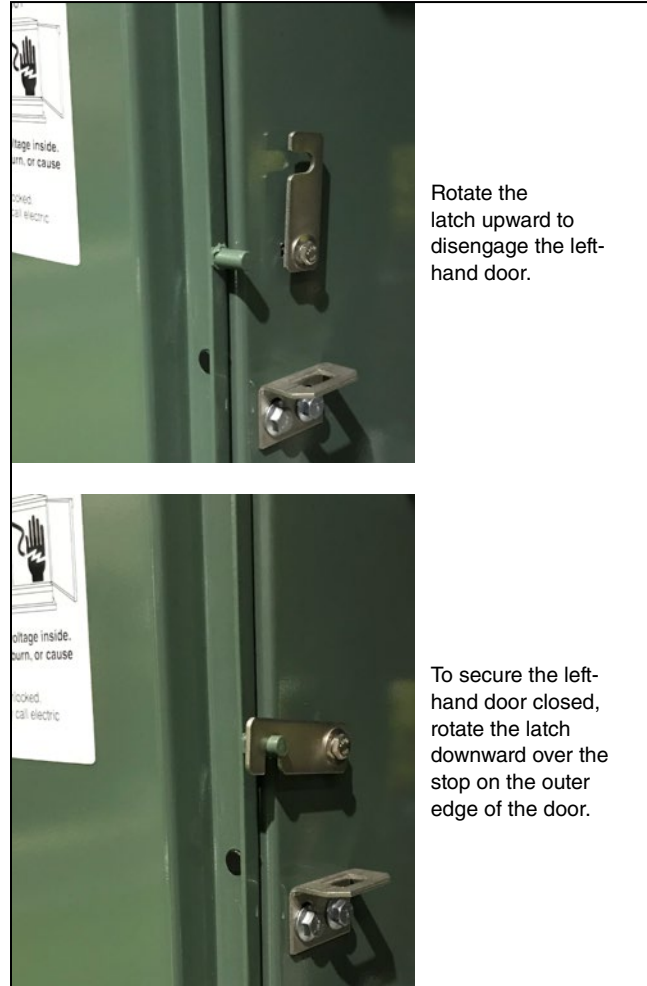

Figure 4. The left-hand door retainer.
STEP 3. *For double-door models of pad-mounted gear:* The left-hand door is secured by a latch and is overlapped by the right-hand door, which is equipped with the Penta-Latch Mechanism. The left-hand door can be opened after opening the right-hand door, removing the tie wrap that secures it for shipment, and disengaging the rotating latch. To disengage the latch, rotate it upward. See Figure 4 on page 12.
- STEP 1.** Close the left-hand door, where applicable, and secure it with the latch by rotating the latch downward over the stop on the outer edge of the door. See Figure 4. The right-hand door of double-door models of pad-mounted gear is equipped with the Penta-Latch Mechanism, which latches automatically when the door is closed.